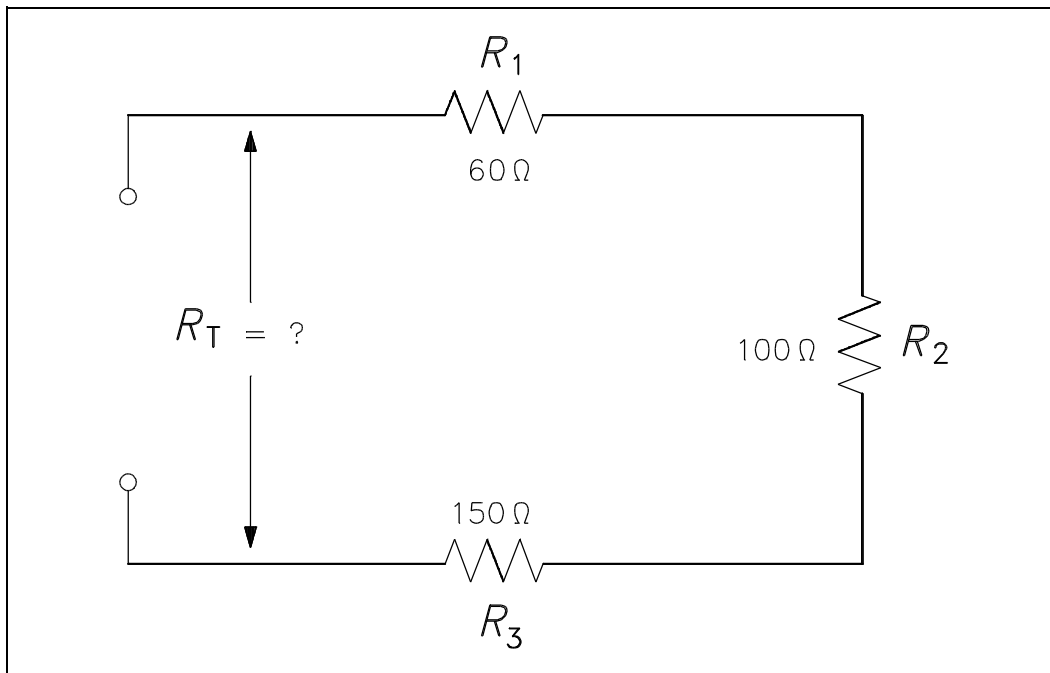

Figure 18 Resistance in a Series Circuit
**Example:**      A series circuit has a 60 $\Omega$ , a 100 $\Omega$ , and a 150 $\Omega$  resistor in series (Figure 18).